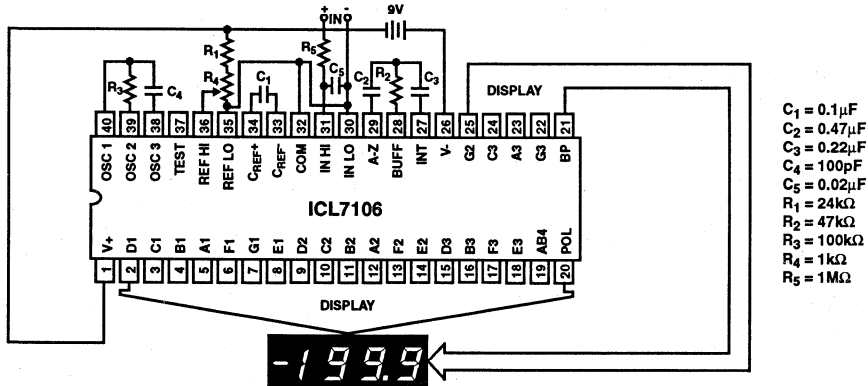
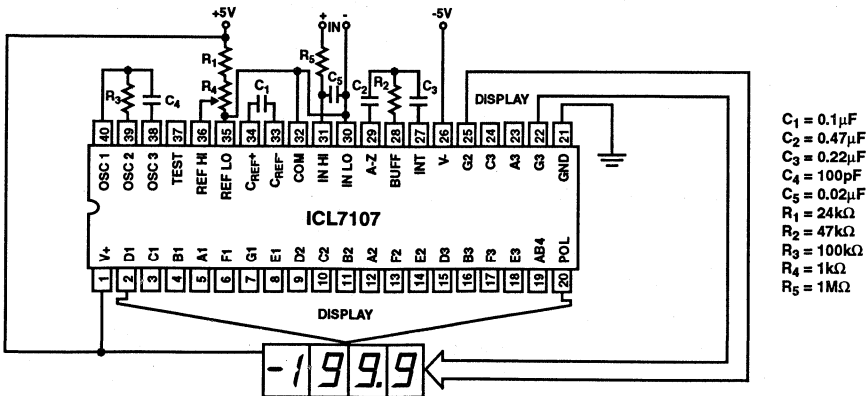

FIGURE 1. ICL7106 TEST CIRCUIT AND TYPICAL APPLICATION WITH LCD DISPLAY COMPONENTS SELECTED FOR 200mV FULL-SCALE
FIGURE 2. ICL7107 TEST CIRCUIT AND TYPICAL APPLICATION WITH LED DISPLAY COMPONENTS SELECTED FOR 200mV FULL-SCALE
3. Unless otherwise noted, specifications apply to both the ICL7106 and ICL7107 at $T_A = +25^\circ C$, $f_{CLOCK} = 48kHz$. ICL7106 is tested in the circuit of Figure 1. ICL7107 is tested in the circuit of Figure 2.